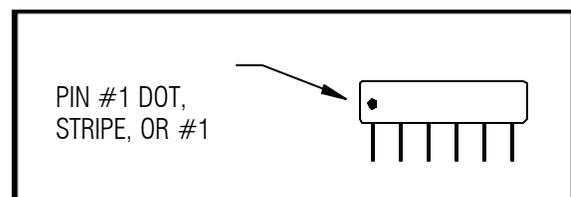

Figure 26 Resistor SIP network.
- ___ 27. Locate and install resistor network R42 - 100k marked 100K. See Figure 26. This is a polarized part. Pin number 1 may be identified by a stripe, a dot or the number 1. This pin must go in the hole marked with a 1 on the